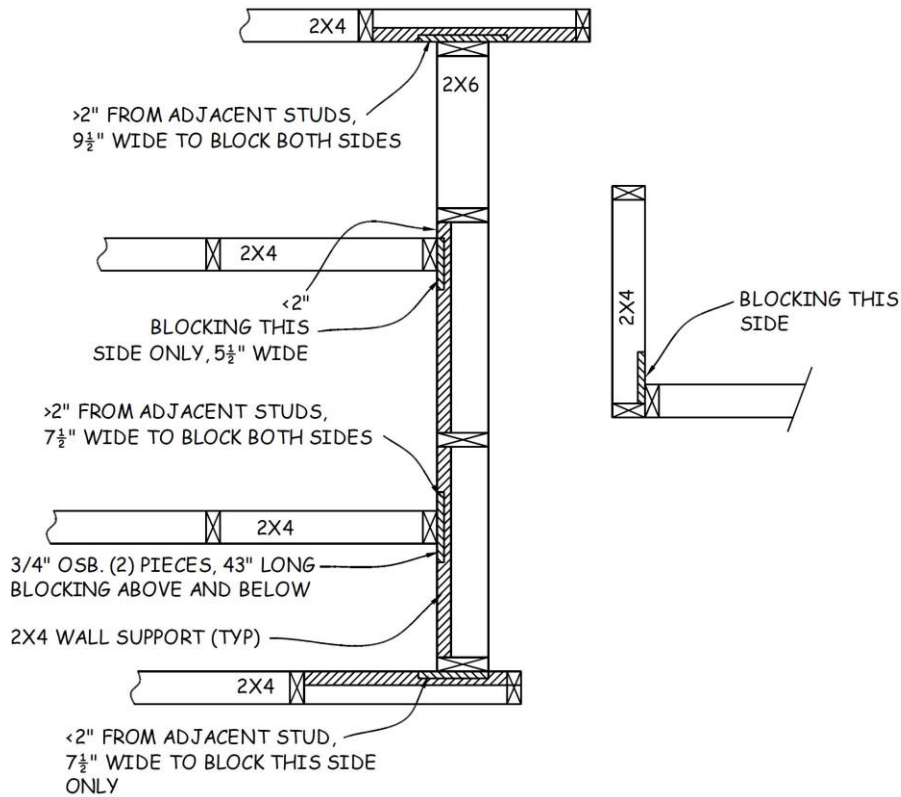

Figure 10-4. Blocking For Wall Rock.
4. Install two 43" long pieces of $\frac{3}{4}$ " OSB blocking at the ends of any interior walls that intersect an exterior wall – one above the 2x4 ladder block and one below the 2x4 ladder block. The blocking must extend at least 2" beyond the edges of the stud, so cut the OSB to a width of $5\frac{1}{2}$ " or $7\frac{1}{2}$ " for a 2x4 wall and $7\frac{1}{2}$ " or $9\frac{1}{2}$ " for a 2x6 wall. Pre-drill four pairs of $\frac{3}{16}$ " holes, spaced evenly vertically, through the stud (about $\frac{1}{2}$ "- $\frac{3}{4}$ " in from each edge). To attach the blocking, hold the piece of OSB in place, making sure it is tight (no gaps) to the outside of the end stud (use a clamp, if necessary). Attach the OSB blocking by screwing 3" sheetrock screws through the holes in the 2x4 into the OSB, turning the screw until it is buried about $\frac{1}{4}$ " into the stud. If there is access to drive screws from the blocking side of stud, it is acceptable to use two layers of $\frac{1}{2}$ " OSB. See Figure 10-4.
5. Where an interior wall intersects an interior wall (see Figure 10-4), install blocking using 2x4's, $\frac{3}{4}$ " OSB, or two layers of $\frac{1}{2}$ " OSB. Secure the blocking to the end stud using 16d nails for 2x4 blocking and 3" sheetrock screws for OSB blocking.